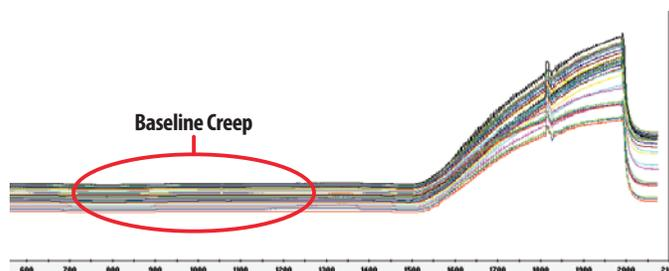

Figure 1. The increase in baseline with each run indicates a sticky system or dirty flow cell.
- 1. Abnormal data traces.** On a KinExA 3000 instrument, the only direct record of the instrument function is the data traces. If the traces show evidence of excessive bubbles, baseline creep (**Figure 1**), inconsistent baseline, or higher than usual noise, it is reasonable to change the flow cell to see if improvement results.